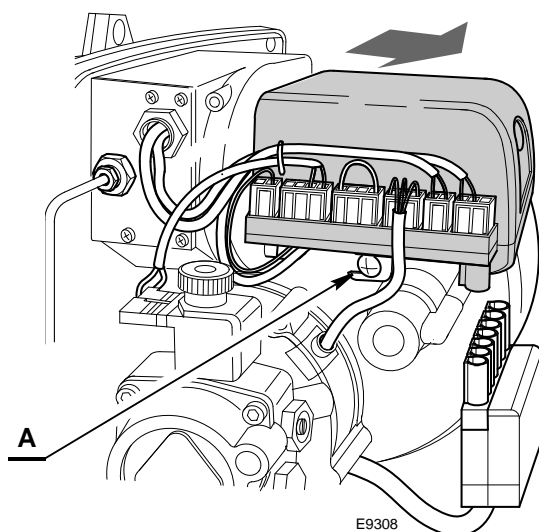

Fig. 14
In two pipe vacuum systems (Fig. 14) the return line should terminate within the oil tank at the same level as the suction line. In this case a non-return valve is not required.
- undo the screw A (Fig. 14) and pull in the direction of the arrow after undoing all the components.